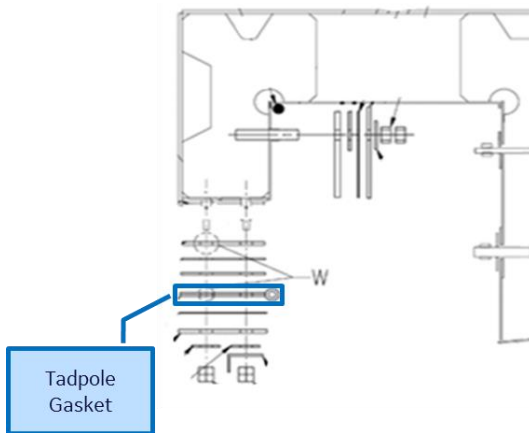

Figure.14: Broken bolt
- Inspect the tadpole gasket to ensure it is installed in the correct orientation shown in Figure.14 . If tadpole gasket, hardware or tadpole clamp plates are not installed properly or worn out a new tadpole gasket, hardware or clamp plate need to be installed/replaced correctly.